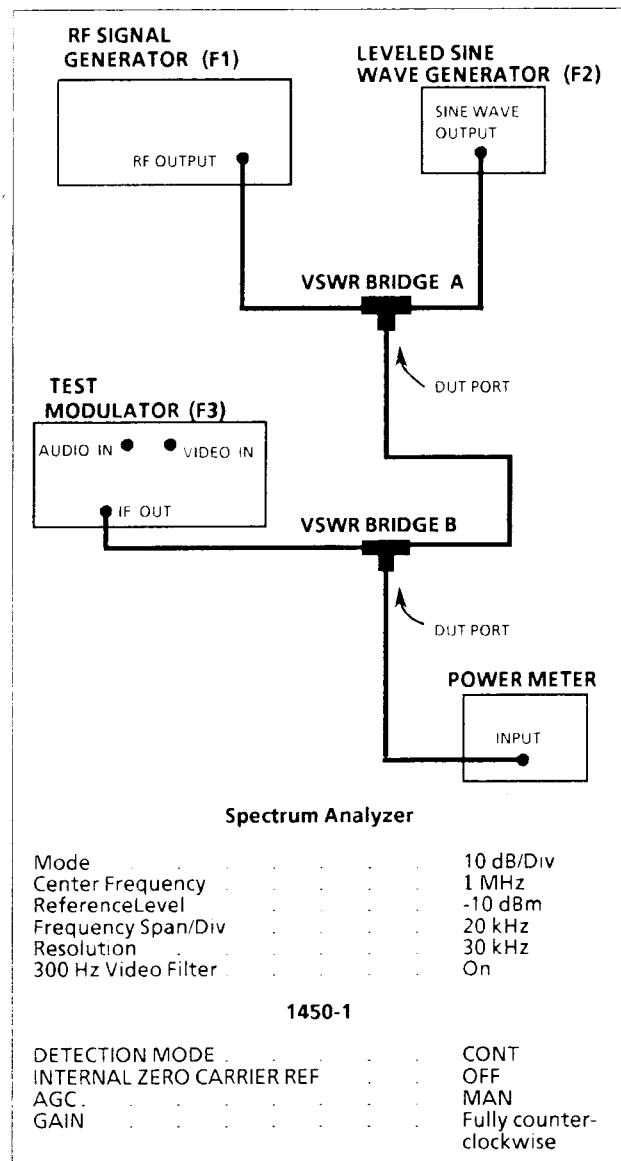

Fig. 4-7. Setup to check adjacent channel cross-modulation.
- Connect and set the test equipment as shown in Fig. 4-7.